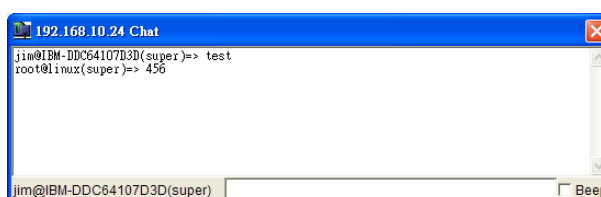

Figure 10-7 Chat Window
- Chat Window: Multiple users can chat with this window. Please refer to Figure 10-7.